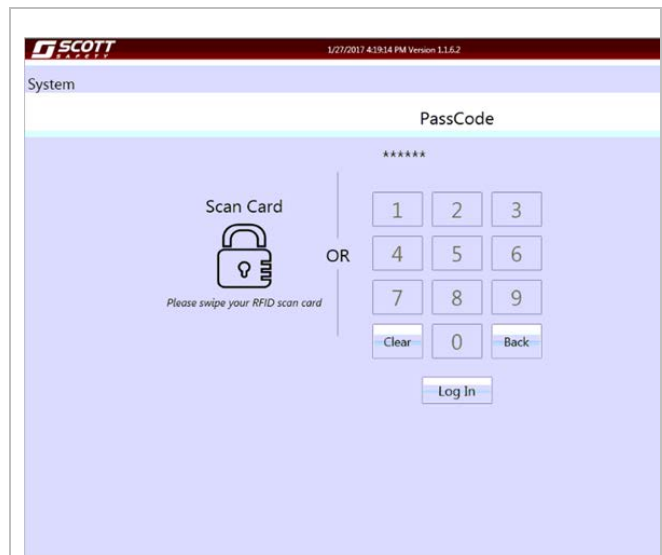

Figure 3.3-1: PassCode Entry
A. Enter your numeric PassCode and press the Log In Icon on the screen below the keypad. See Figure 3.3-1.